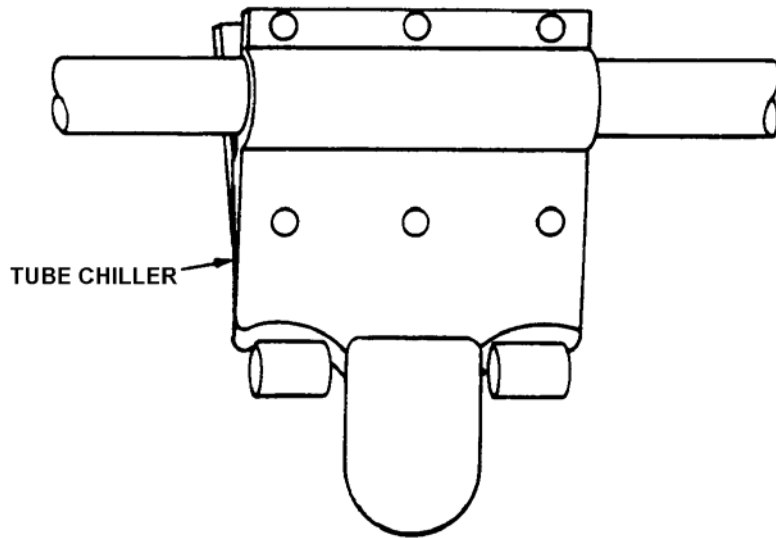

Figure 8. Application of Tube Chiller on Tube Joint
k. Apply the cold tube chiller to the tube joint (Figure 8) until the tube is chilled (about 1 minute for 1/4-inch tube and 3 minutes for 1-inch tube).